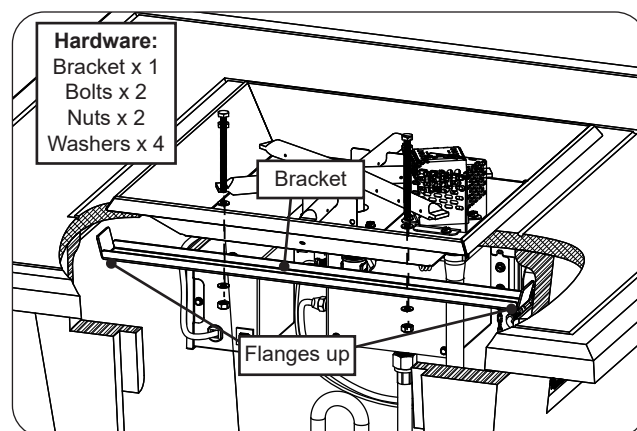

Fig. 28-4 Install bracket
7. Locate the supplied support bracket and install as shown in Fig. 28-4. The bracket must be inserted into the enclosure through the door opening, aligned with the holes found on the burner pan, and fastened with a  $\frac{1}{2}$ " wrench and the supplied bolts (2), nuts (2), and washers (4).